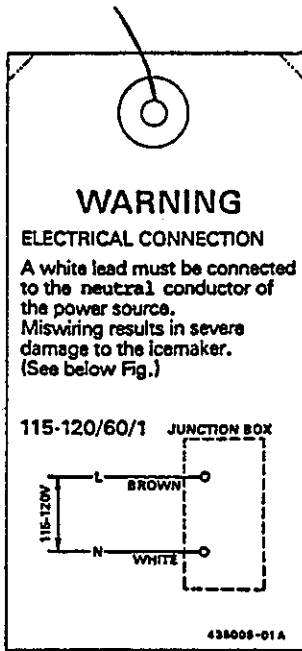

Fig. 2
- The white lead must be connected to the neutral conductor of the power source. Miswiring results in severe damage to the ice dispensing bin. See Fig. 2.